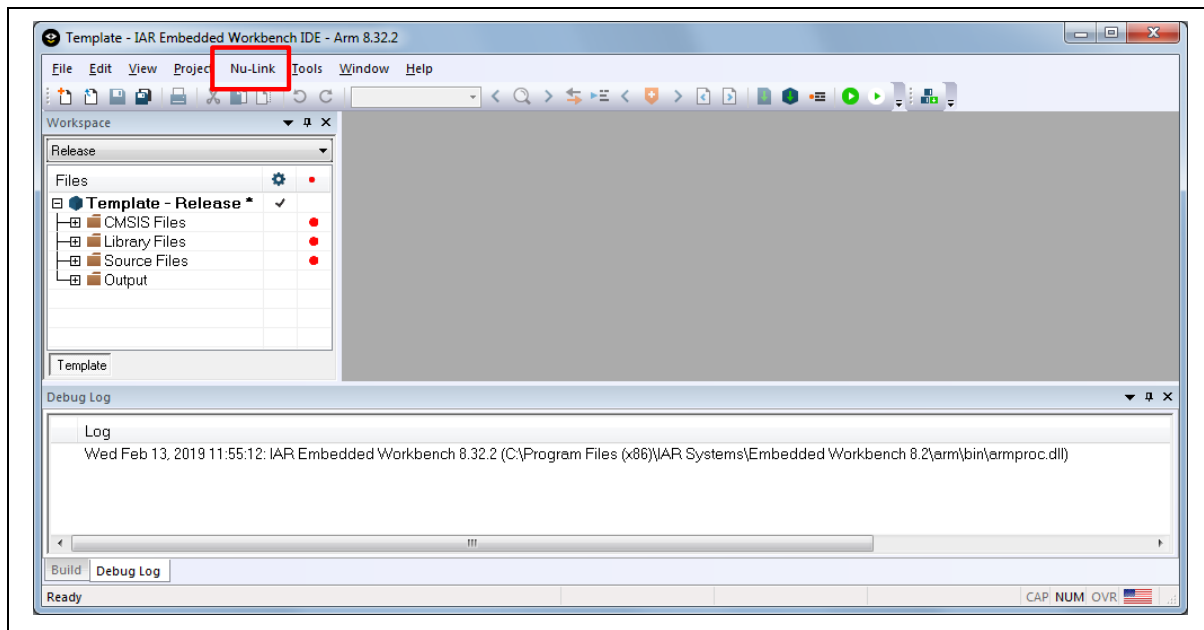

Figure 4.6-8 IAR EWARM Window
10. Make sure the toolbar contains “Nu-Link” item as shown in Figure 4.6-8.